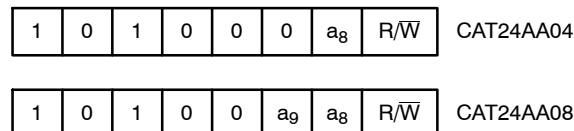

Figure 3. Slave Address Bits
The Master addresses a Slave by creating a START condition and then broadcasting an 8-bit Slave address (Figure 3). The four most significant bits of the Slave address are 1010 (Ah). The next three bits from the Slave address byte are assigned as shown in Figure 3, where a_9 and a_8 are internal address bits. The last bit, $R/\overline{W}$, instructs the Slave to either provide (1) or accept (0) data, i.e. it specifies a Read (1) or a Write (0) operation.